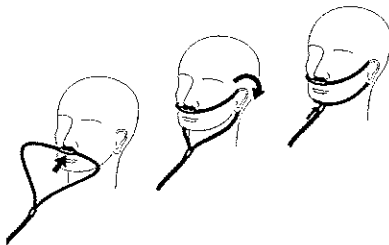

Figure 7
- Place the nasal cannula onto the patient as shown in Figure 7.